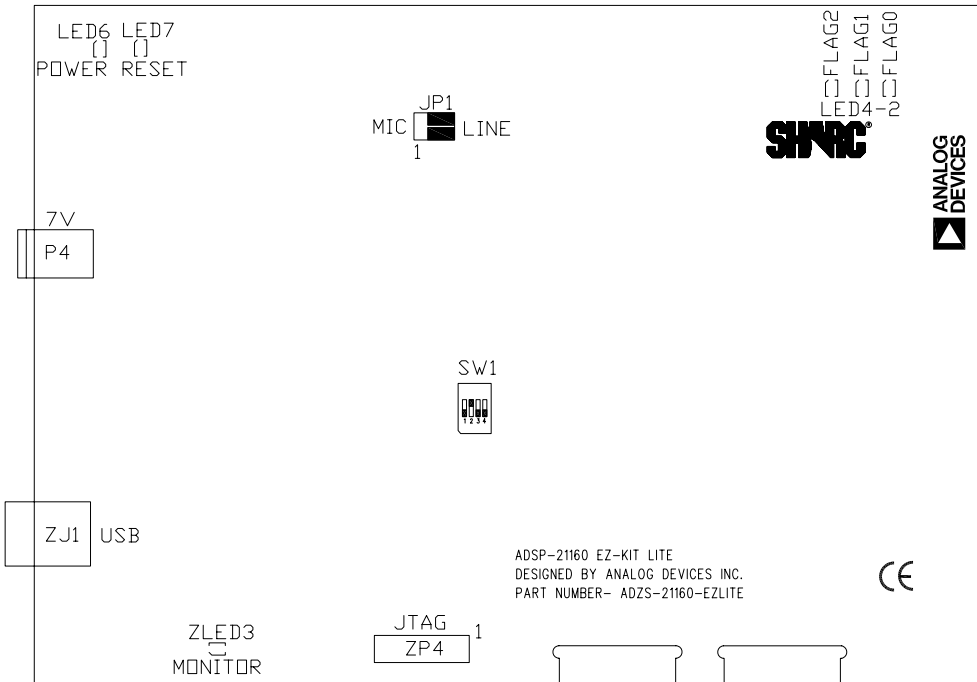

Figure 1-1. EZ-KIT Lite Hardware Setup
2. Figure 1-1 shows the default jumper and switches settings, connector locations, and LEDs used in installation. Confirm that your board is set up in the default configuration before moving to the next step.